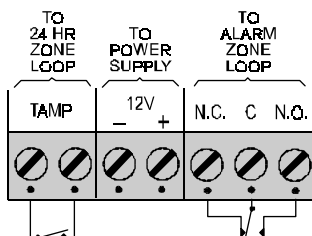

Figure 2. WR-300 Wiring
- Connect the wires to the terminal block. Refer to figures 2, 4 or 6, depending on the model used. The type 1C output relays have changeover contacts rated at 1A / 48 Volts DC or AC. The BUZ terminal is suitable for connecting a 12 VDC / 25 mA buzzer.